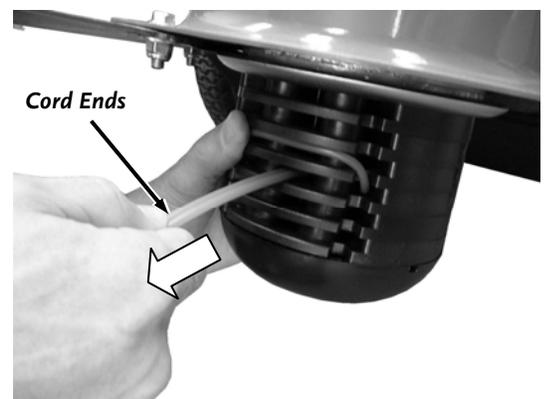

Figure 20
3. Pull the ends of the Cord under the loop and push the loop up into the Line Plate groove above them (**Figure 20**) and then pull the ends tight.